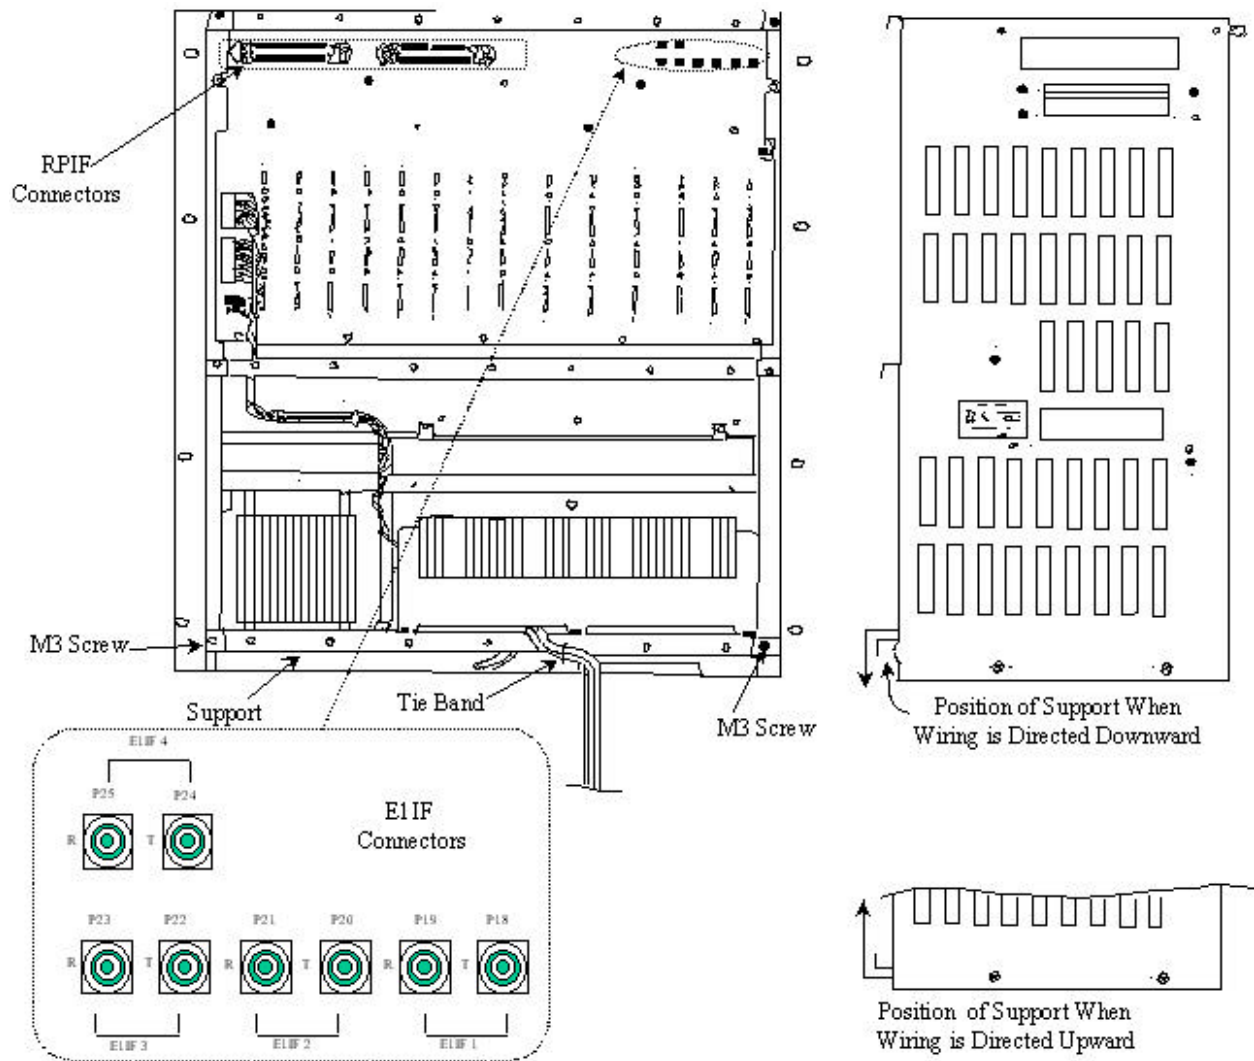

Figure 2-17: Wiring – Back of RPC
7. After installing the RPC in the rack, affix the wiring as indication in Figure 2-17. Redirect the support according to the direction of the wiring, as shown in Figure 2-17.
8. Connect the coaxial cable with an SMB coaxial cable plug having an impedance of 75 ohms into the E1IF connectors on the back of the RPC, as shown in Figure 2-17
9. Connect the cable with a Champ plug to the RPIF connector on the back of the RPC. Refer to Figure 2-17. Table 2-1 provides the maximum cable lengths between the RPC and the RP for 2 different wire gauges. Refer to *Appendix A* for the description of the 2 Champ RPIF connector pin assignments.